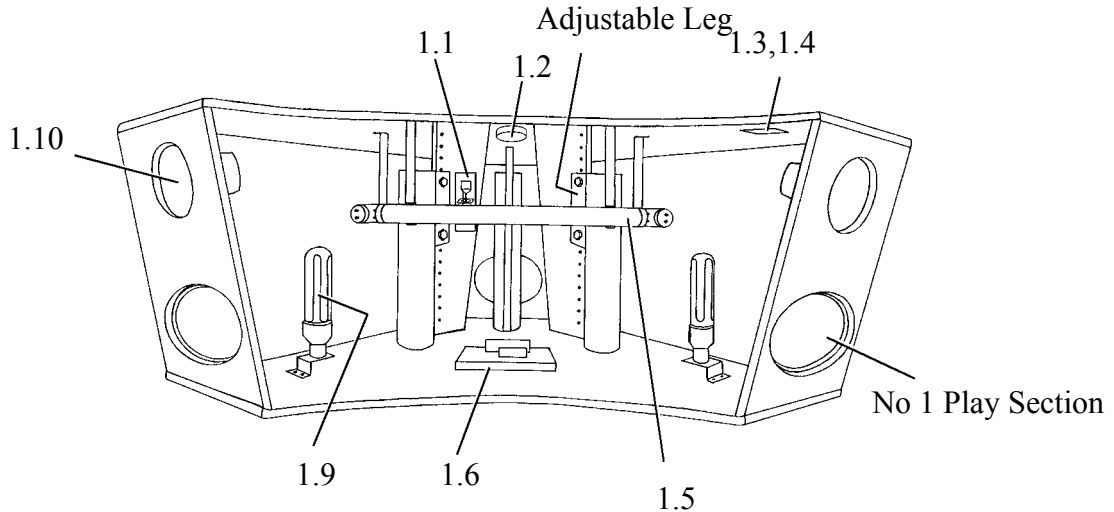

Figure Parts 1 - Top Sign
- The Parts List is divided into 9 sections, each headed by at least one numbered Figure (e.g. "Figure Parts 1 – Top Sign"). Each part is uniquely referenced by the Figure number and the Item number.